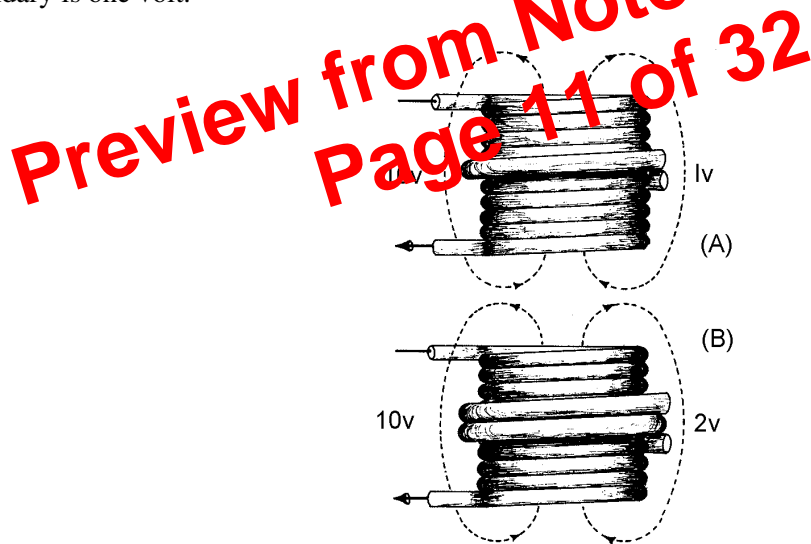

Figure 5-10.—Transformer turns and voltage ratios.
The total voltage induced into the secondary winding of a transformer is determined mainly by the RATIO of the number of turns in the primary to the number of turns in the secondary, and by the amount of voltage applied to the primary. Refer to figure 5-10. Part (A) of the figure shows a transformer whose primary consists of ten turns of wire and whose secondary consists of a single turn of wire. You know that as lines of flux generated by the primary expand and collapse, they cut BOTH the ten turns of the primary and the single turn of the secondary. Since the length of the wire in the secondary is approximately the same as the length of the wire in each turn in the primary, EMF INDUCED INTO THE SECONDARY WILL BE THE SAME AS THE EMF INDUCED INTO EACH TURN IN THE PRIMARY. This means that if the voltage applied to the primary winding is 10 volts, the counter emf in the primary is almost 10 volts. Thus, each turn in the primary will have an induced counter emf of approximately one-tenth of the total applied voltage, or one volt. Since the same flux lines cut the turns in both the secondary and the primary, each turn will have an emf of one volt induced into it. The transformer in part (A) of figure 5-10 has only one turn in the secondary winding, the emf across the secondary is one volt.
The transformer represented in part (B) of figure 5-10 has a ten-turn primary and a two-turn secondary. Since the flux induces one volt per turn, the total voltage across the secondary is two volts. Notice that the volts per turn are the same for both primary and secondary windings. Since the counter emf in the primary is equal (or almost) to the applied voltage, a proportion may be set up to express the value of the voltage induced in terms of the voltage applied to the primary and the number of turns in each winding. This proportion also shows the relationship between the number of turns in each winding and the voltage across each winding. This proportion is expressed by the equation: